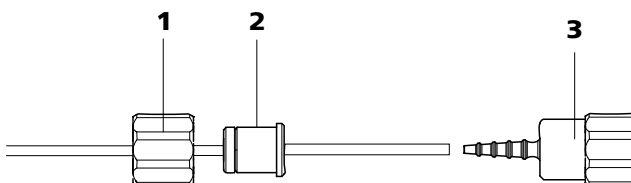

Figure 10 Install pump tubing without filter
- **Case B:** connect a 6.2744.160 pump tubing connection **without filter** (see Figure 10, page 16).